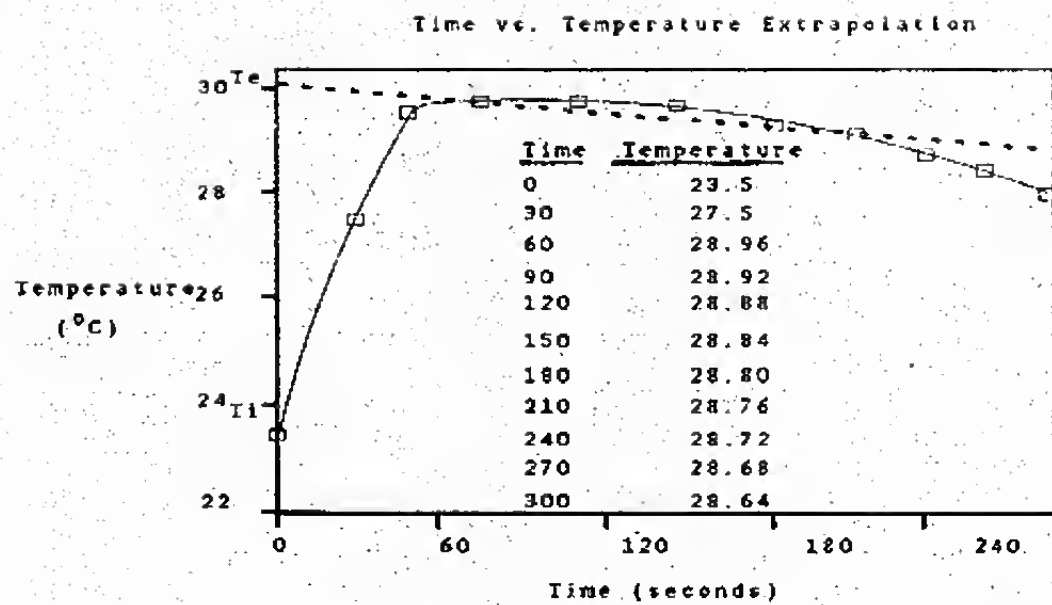

FIGURE 1
a. After plotting your data points of temperature vs. time, draw a smooth curve through these points. Your initial point at time = 0 will have the initial temperature ( $T_i$ ) of the solution prior to mixing (refer to Figure 1). Draw a straight line from your "stabilized" data (data recorded over the one minute intervals) back to the Temperature axis. This is your extrapolation. The extrapolated temperature,  $T_f$ , is the temperature where this extrapolation line intersects the y-axis.